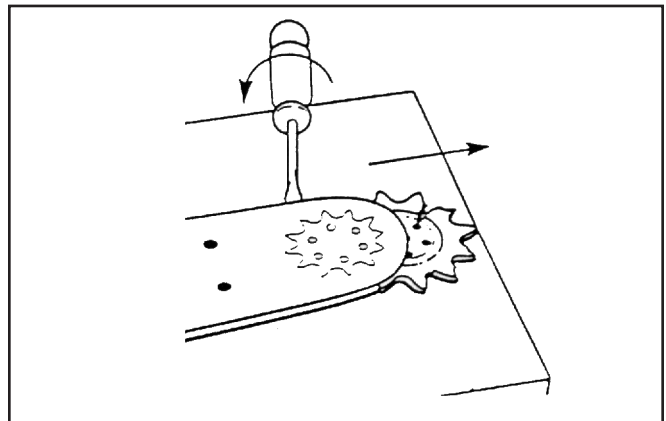

Figure 26. Removing Old Nose Sprocket
2. Insert a straight blade screw driver to spread the bar nose rails just enough to remove the old nose sprocket. Use a rag or paper towel to clean the nose sprocket area. See Figure 26.